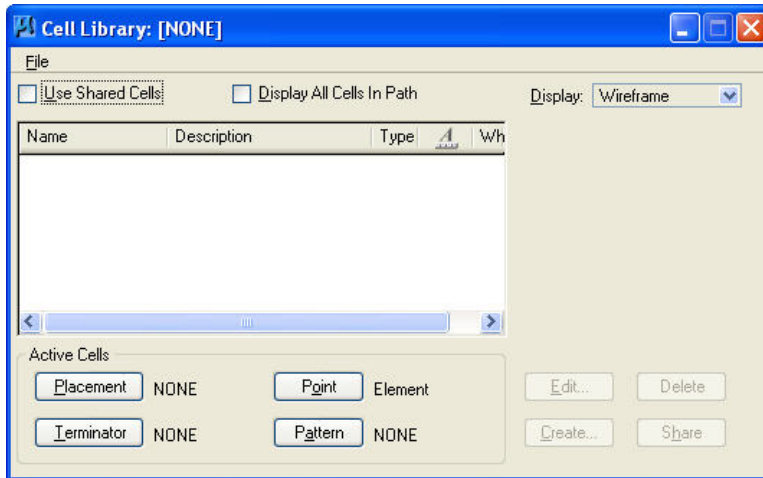

Figure P11–3 Cell Library box
This procedure creates the arrowhead shown in Figure P11–2, creates a cell library, and creates a cell from a copy of the arrowhead.
STEP 5: Select **Element > Cells** to open the Cell Library box, as shown in Figure P11–3.
This procedure draws the objects shown in Figure P11–4 and creates cells from them.
Note: Draw only the electronic symbols shown in Figure P11–4. Do *not* place the text or dimensions. The text and dimensions are shown only as an aid to creating the symbols.
STEP 7: Draw and create point cells of the other three electronic symbols shown in Figure P11–4. Place the origin at the location indicated in the figure, and use the underlined text for the cell names. Here are the names and descriptions of each cell:
This procedure uses the electronic symbol cells to create the diagram shown in Figure P11–1.
STEP 1: With Figure P11–1 as a guide, draw the border and title block.
Place a data point to place the cell approximately at the same location as shown for the top PNP transistor symbol in Figure P11–1.